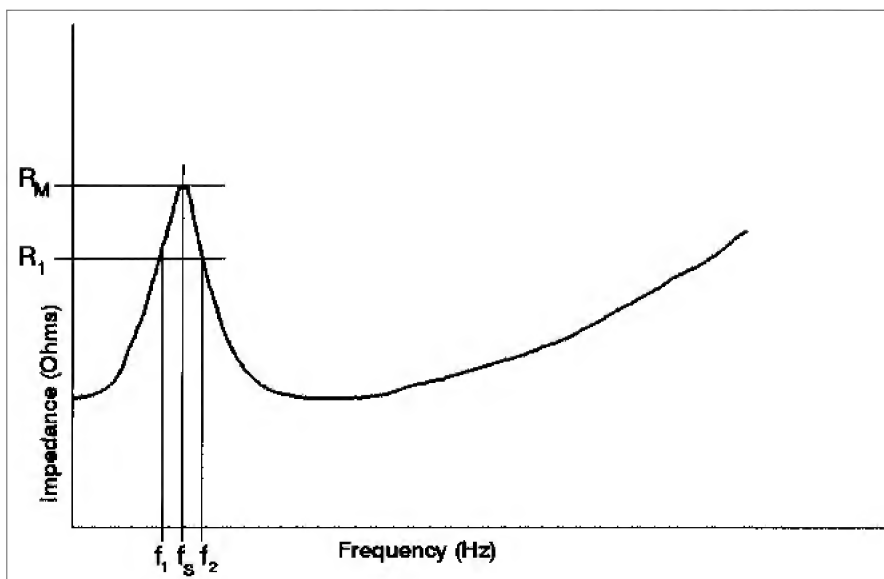
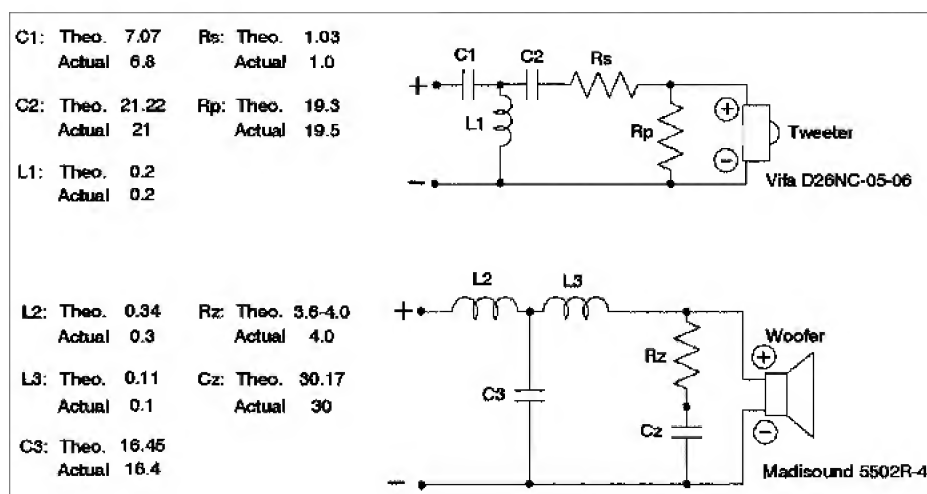

Figure 8-2 Typical loudspeaker impedance curve.
Figure 8-5 Two-way experimental system with third-order crossover.
The general shape of a dynamic loudspeaker's impedance curve is shown in Figure 8-2. It has a resonance peak at frequency f_s and, after a relatively brief flat section, increases with frequency, primarily due to voice-coil inductance. The points of interest we will be initially concerned with are frequencies f_s , f_1 , and f_2 , R_M , and R_1 , which define the shape of the resonance peak and therefore the total Q .
7. Referring to Figure 8-2, reduce the signal generator frequency to the point where the impedance is equal to R_1 . To maintain accuracy, we will have to recalibrate at this lower impedance.
3. The first step in the crossover design process is to design the woofer's impedance compensation network. Looking back to Figure 8-2, we noted earlier the rise in the impedance curve associated with voice coil inductance. If this is not equalized, the crossover will not work properly—the woofer will exhibit a similar rising response in the vicinity of the crossover point. We can compensate for this by placing a resistor and capacitor in series across the speaker terminals, shown in Figure 8-5
6. Up until now, everything else in the crossover design process has been focused on trying to characterize the actual driver parameters. We have determined the relative difference in sensitivities between our drivers and we know their average impedances in the vicinity of the crossover point. Calculation of the crossover component values is almost trivial in comparison. You can use design formulas available in Refs. 3, 8, 9, and 10, or use your PC and any of the shareware programs. Both Speakerbuilder and Blaubox will calculate them by inputting the desired crossover frequency and driver impedance at that frequency. I chose 4.3 ohms for the woofer impedance and 5.0 ohms for the tweeter and got the values shown in Figure 8-5 for a 3,000-Hz crossover point.